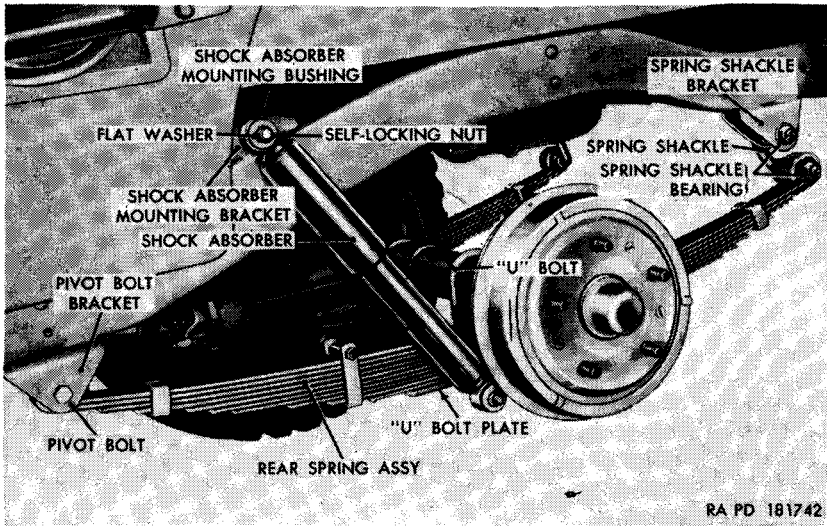
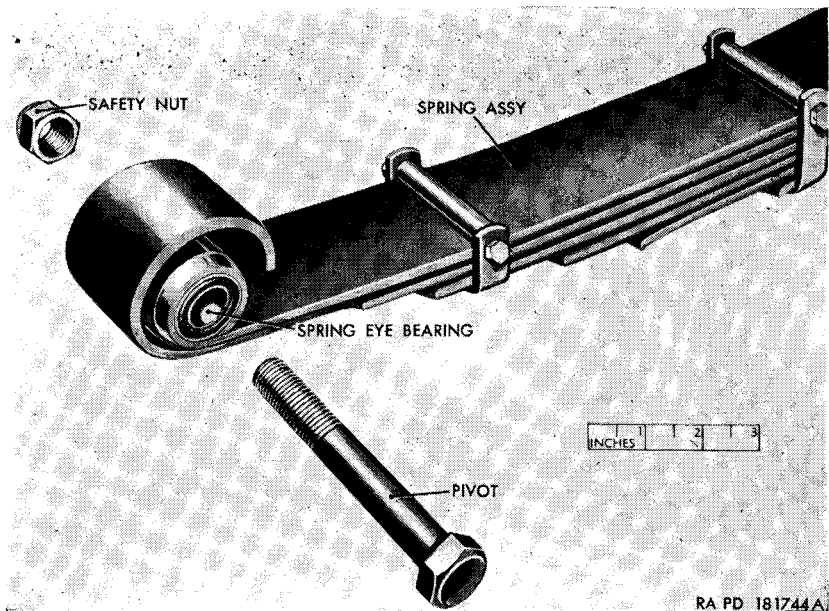

Figure 120. Rear spring installed—left side shown.
Figure 122. Pivot bolt and spring.
- (1) Jack up vehicle high enough to take load off springs and support vehicle with safety stands or suitable blocking.
- (2) Unscrew the safety nut from the pivot bolt and withdraw bolt from spring eye bearing (fig. 122) and pivot bolt bracket (figs. 119 and 120).
- (1) Position the spring assembly at the pivot bolt bracket (fig. 119 or 120). Aline the hole in spring eye bearing (fig. 122) with the hole in the pivot bolt bracket and insert the pivot bolt through the bracket and spring eye bearing from the outside. Secure the pivot bolt in position with a  $\frac{3}{8}$ -inch safety nut (fig. 120).
- (2) Remove the safety stands or blocking and lower vehicle to ground.
- (1) Place a jack under the axle housing and raise vehicle until both wheels clear the ground. Place safety stands or suitable blocking under bumper to support weight of vehicle. Adjust the height of the jack under the axle housing to relieve the tension on the spring.
- (2) Remove spring shackle (par. 250).
- (3) Remove pivot bolt (par. 251).
- (4) Remove the self-locking nut and flat washer securing the shock absorber to the U-bolt plate (fig. 120), or spring and shock absorber mounting seat (fig. 119), and pull shock absorber free from plate or seat.
- (5) Remove the four U-bolt nuts securing the U-bolts and U-bolt plate, or the spring and shock absorber mounting seat. Remove the U-bolt, U-bolt plate, or spring and shock absorber mounting seat and spring.
- (1) Place spring in approximate position under vehicle, raise pivot bolt end of spring, and install pivot bolt (par. 251*b*(1)).
- (2) Raise spring shackle end of spring into position and install spring shackle (par. 250*b*(1) through (6)).
- (3) Slowly lower axle onto spring, making certain that spring center bolt enters the recess in spring saddle on the axle. Install the **U**-bolts over the axle and through the **U**-bolt plate (fig. 120), or spring and shock absorber mounting seat (fig. 119), and install the four  $\frac{7}{16}$ -inch **U**-bolt nuts.
- (4) Position the lower or small end of the shock absorber on the stud of the **U**-bolt plate, or spring and shock absorber mounting seat, and secure in position with a  $\frac{1}{2}$ -inch flat washer and  $\frac{7}{16}$ -inch self-locking nut.
- (5) Remove the safety stands or blocking and lower vehicle to ground.
- (6) Rock vehicle back and forth to flex springs and tighten safety nut on pivot bolt to torque of 27 to 30 pound-feet.
- (7) Lubricate spring shackles (par. 66).
- (8) Road-test vehicle and check for tight spring shackles. If too tight, remove and again install spring shackle bearings (par. 250).